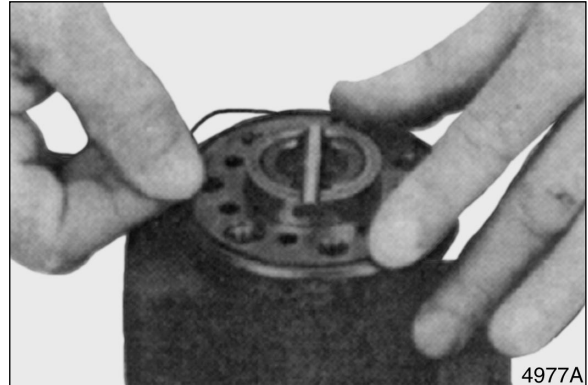

Figure 47
17. Lubricate O-ring with 20 weight mineral oil and install it in groove. See Figure 47.